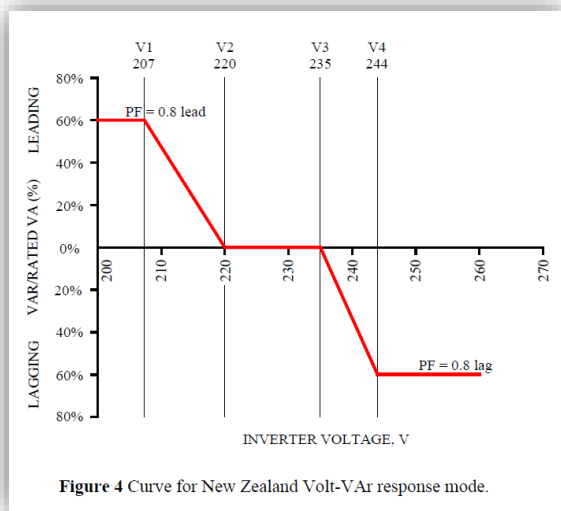
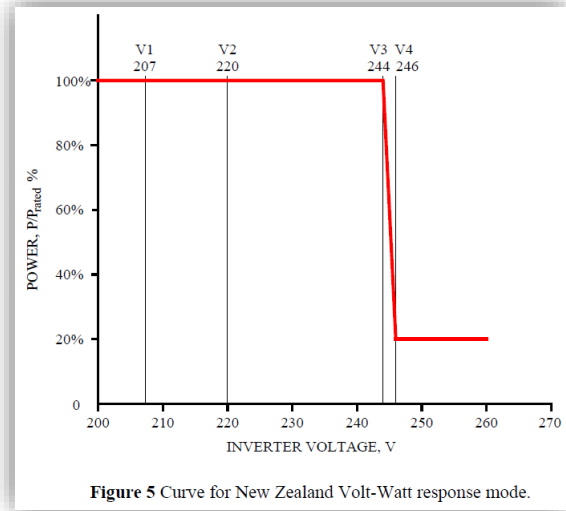

Figure 4 Curve for New Zealand Volt-VAr response mode.
Figure 5 Curve for New Zealand Volt-Watt response mode.
| Volt response modes: Volt-VAr, Q(V) and Volt-Watt, P(V) | Applicability determined according to GREEN Grid traffic light system, Figure 3.GREEN Grid designed Volt-response curves shown in Figure 4 and Figure 5. |                         |                                   |